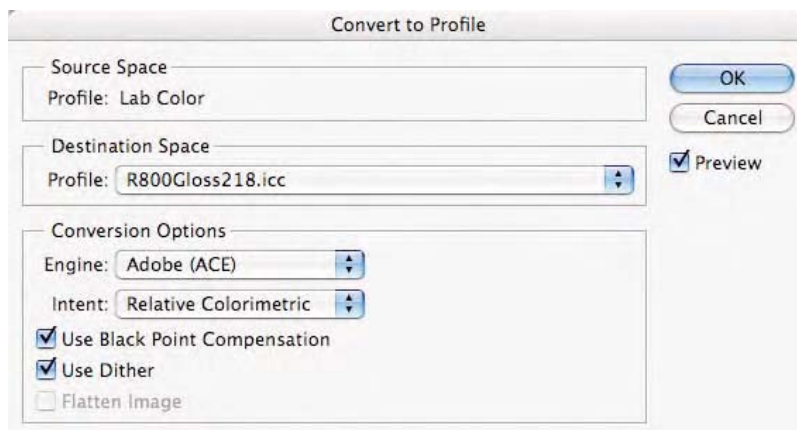

Fig. 9-13-1 The **Convert to Profile** command showing the **Epson R800Gloss218.icc** profile selected for the destination space.
2. Choose **Image-Mode-Convert to Profile** in Photoshop CS or **Edit-Convert to Profile** in CS2 as seen in Fig. 9-13-1.